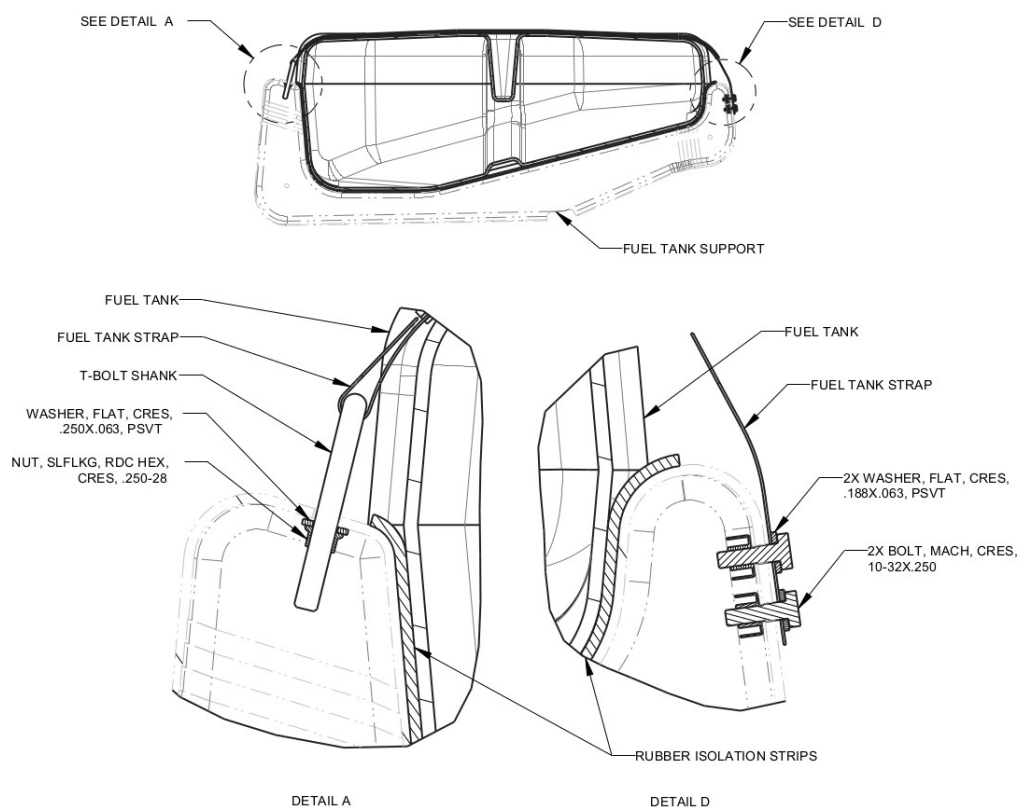

FIGURE 11-4
18. Remove self-locking nut from both T-bolt shanks located at FWD end of fuel tank. (See Figure 11-4. Detail A.)
19. Remove two bolts and washers securing the fuel tank straps to the aft end of fuel tank. (See Figure 11-4. Detail D.)